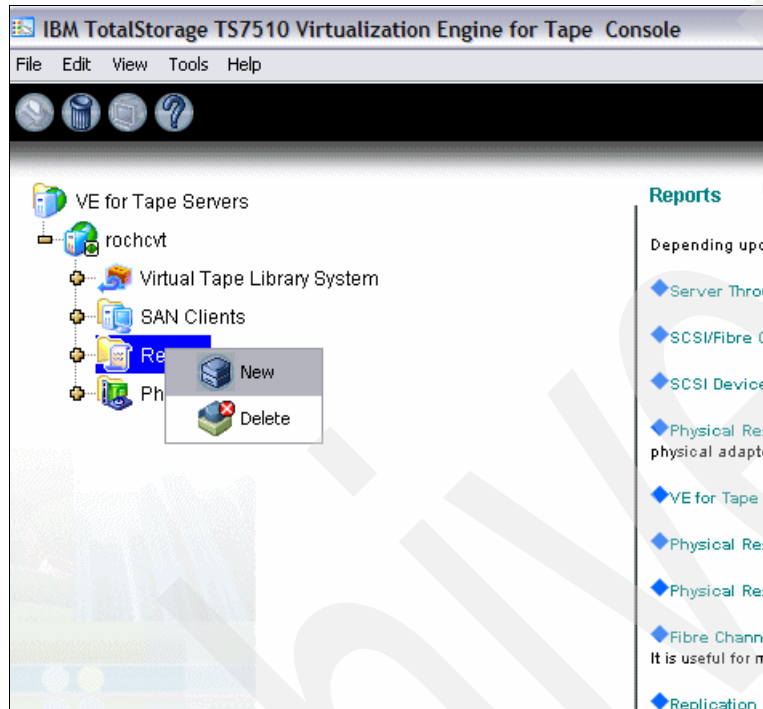

Figure 7-1 Create new report
1. Log in to the Virtualization Engine for Tape Console. In the left panel, right-click **Reports** and select **New**, as is shown on Figure 7-1.